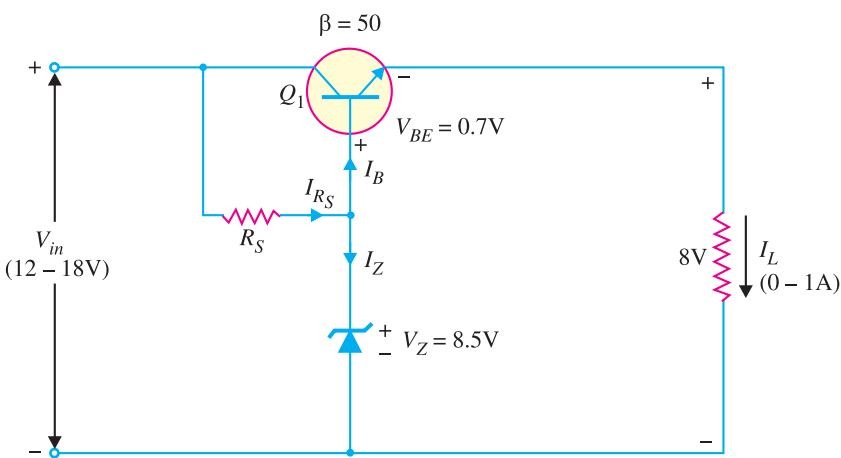

Fig. 17.16
**Example 17.15.** In a series transistor voltage regulator (See Fig. 17.16), the load current varies from 0–1A and the unregulated d.c. input varies from 12–18V. The 8.5V zener diode requires atleast 1 mA of current to stay in its regulating region (i.e. \$I\_{Z(min)} = 1\text{ mA}\$).